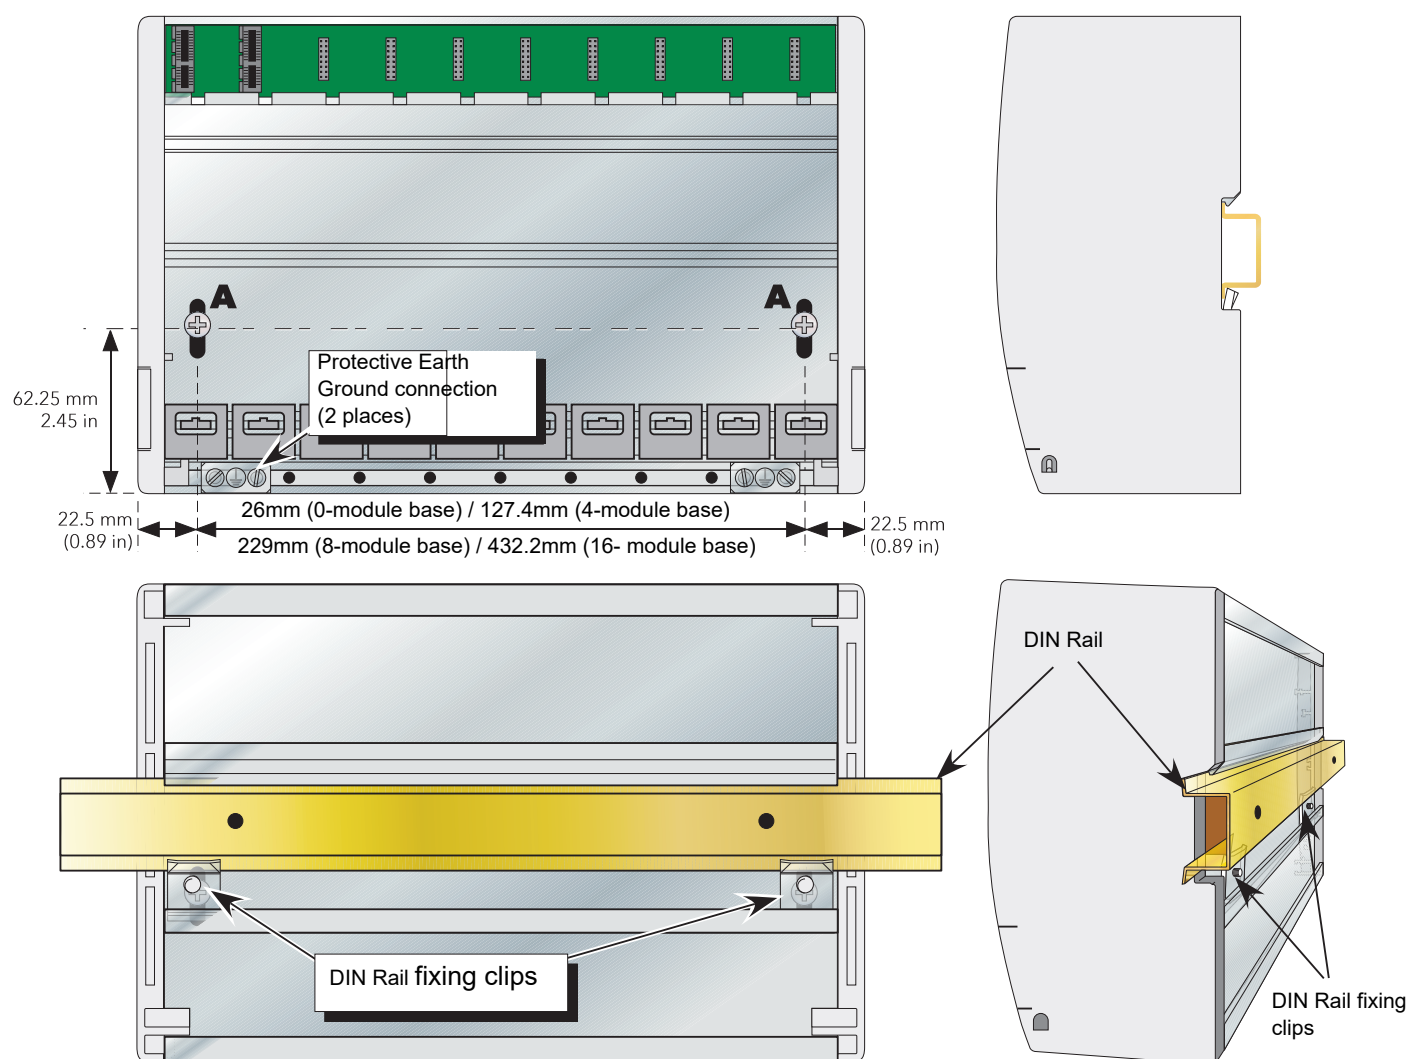
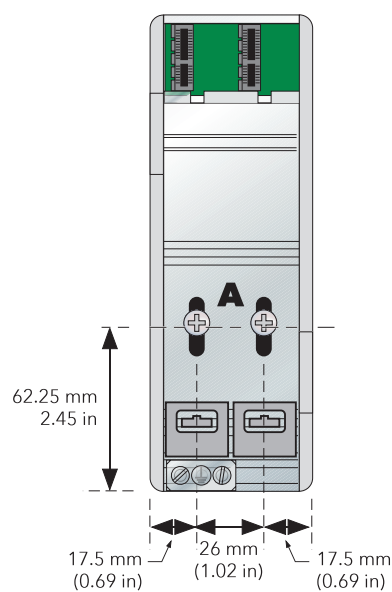

Figure 2 Fixing details
Figure 3 No-module base details
2. Loosen the screws ('A' in Figure 2 and Figure 3) in the Base Unit, two or three turns, and allow them, and the associated fixing clips to slide to the bottom of the screw slot.
3. Lower the base unit on to the DIN rail such that the top edge of the rail fits into the slot on the underside of the support bar (see Figure 2 and Figure 3).
4. Slide the screws (A) and associated clips as far as they will go towards the top of the screw slots, ensuring that the top of each fixing clip locates behind the bottom edge of the DIN rail.
1. Remove the screws ('A' in Figure 2 and Figure 3) and associated fixing clips.
Figure 3 shows the control module terminal unit with wiring details for the supply and for the battery. A suitable battery and charger are available from the manufacturer under part number LA030830.